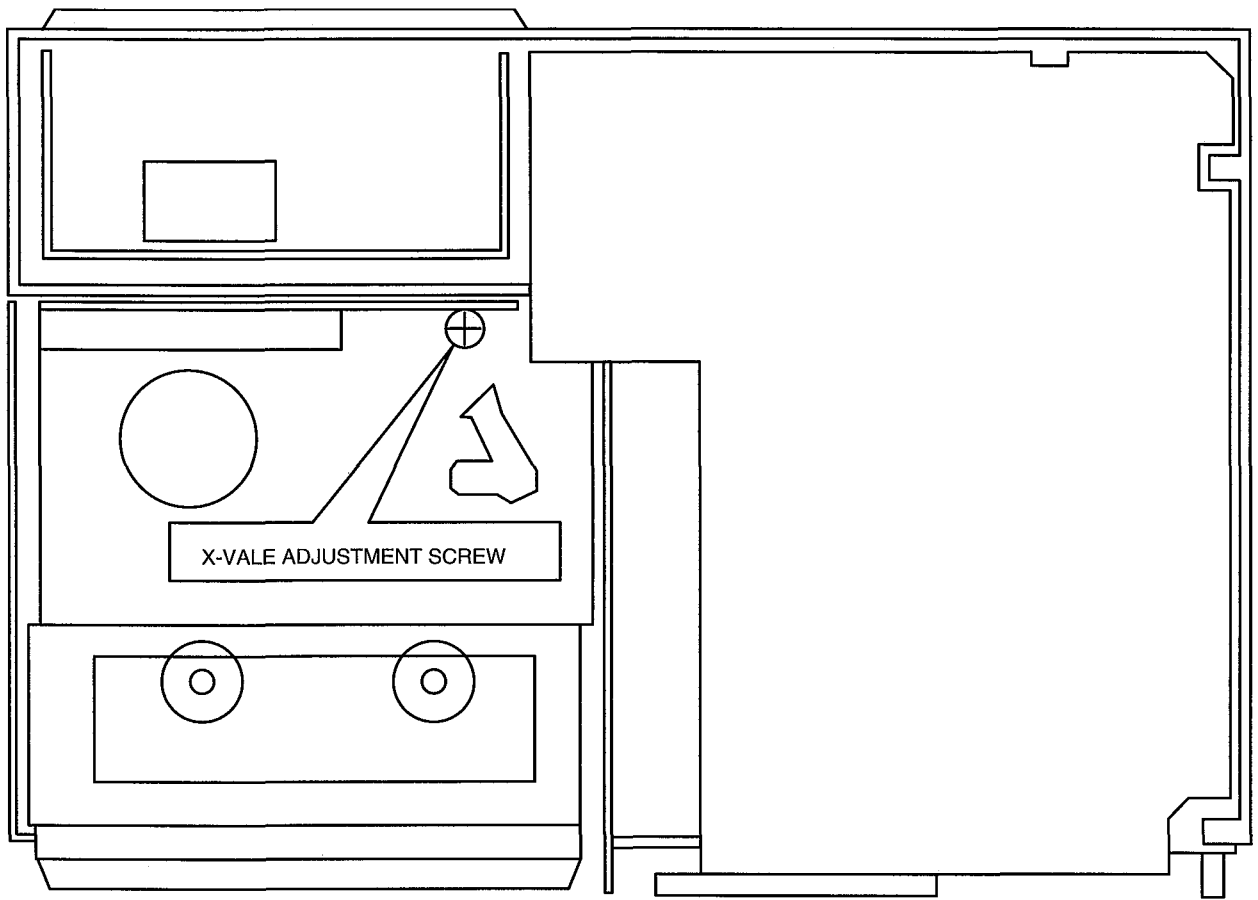

Fig. 4-6 Top View of Unit
(2) X-Value adjustment (See Fig.4-6)